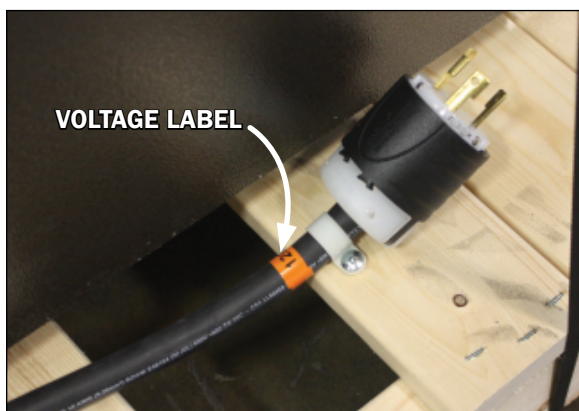
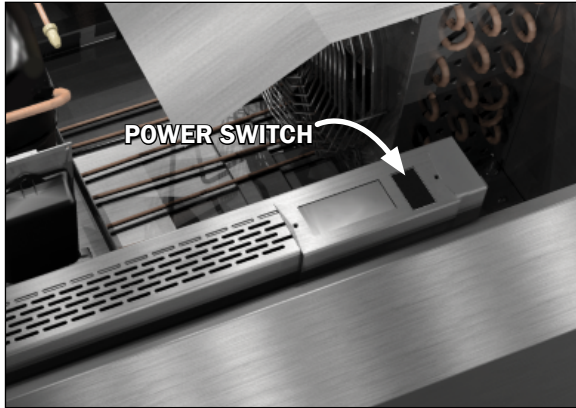

Fig. 7 Main power cord voltage label
Fig. 9 Power switch
Prior to plugging in and starting up the case always check the data tag located on the left end exterior panel or top interior of the case, as well as the voltage label found on the main power cord (Fig. 7) which can be found at the rear base panel. **Note:** **Check that the voltage of the receptacle you are going to use for power and the voltage required for the case match.**
1. After the main power cord (Fig. 7) located at the base panel of the case is plugged in and the power switch (Fig. 9) located at the top next to the digital controller, flipped to ON the case should begin normal operations.